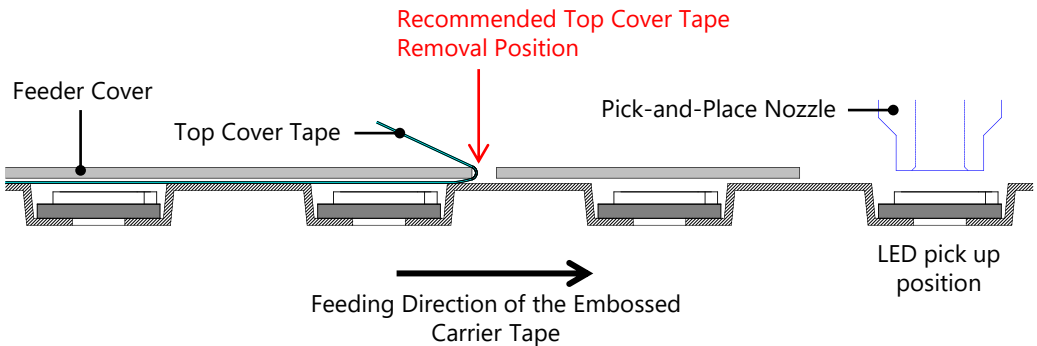

Figure 4. Top Cover Tape Removal Position
3. It is recommended to remove the top cover tape at the recommended position shown in Figure 4.